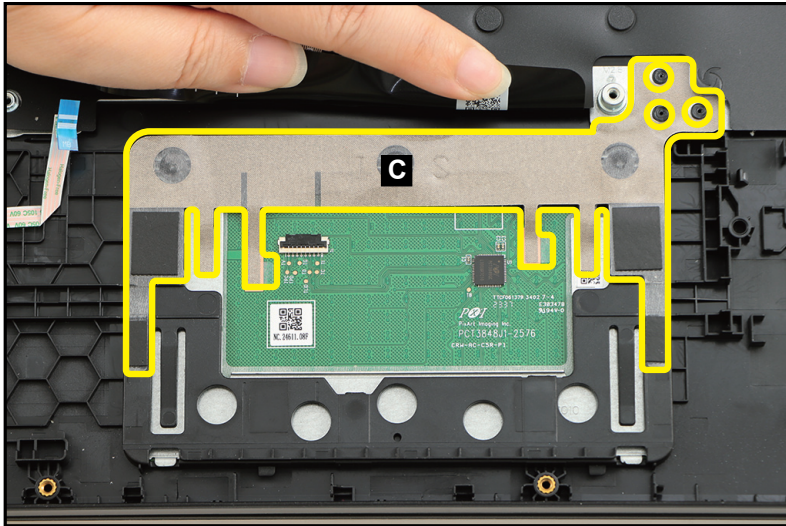

Figure 1-42. Touchpad Module Removal
4. Detach the conductive tape (C) from the touchpad module and top assembly (Figure 1-42).